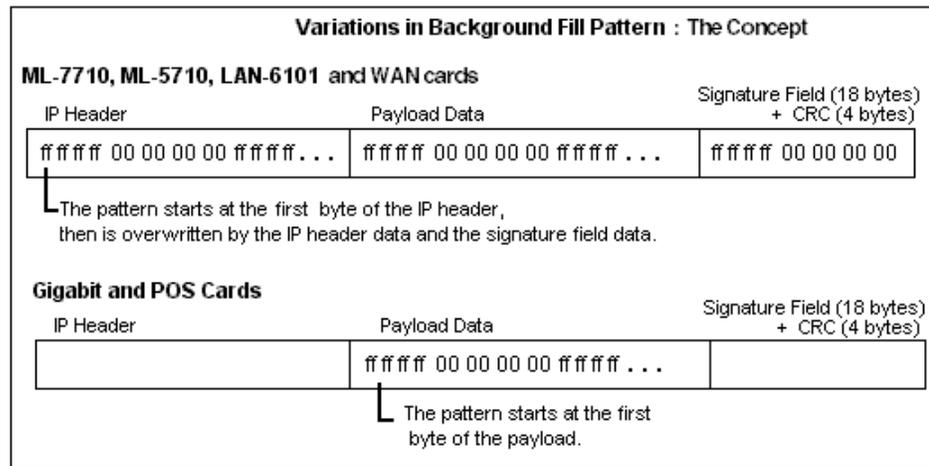

Figure 9-1. Variations in Background Fill Pattern
- *Figure 9-1* illustrates two methods of placing the background pattern in a frame: The ML-7710 method begins the pattern starting with the first byte of the IP header, and is then overwritten by the IP header.